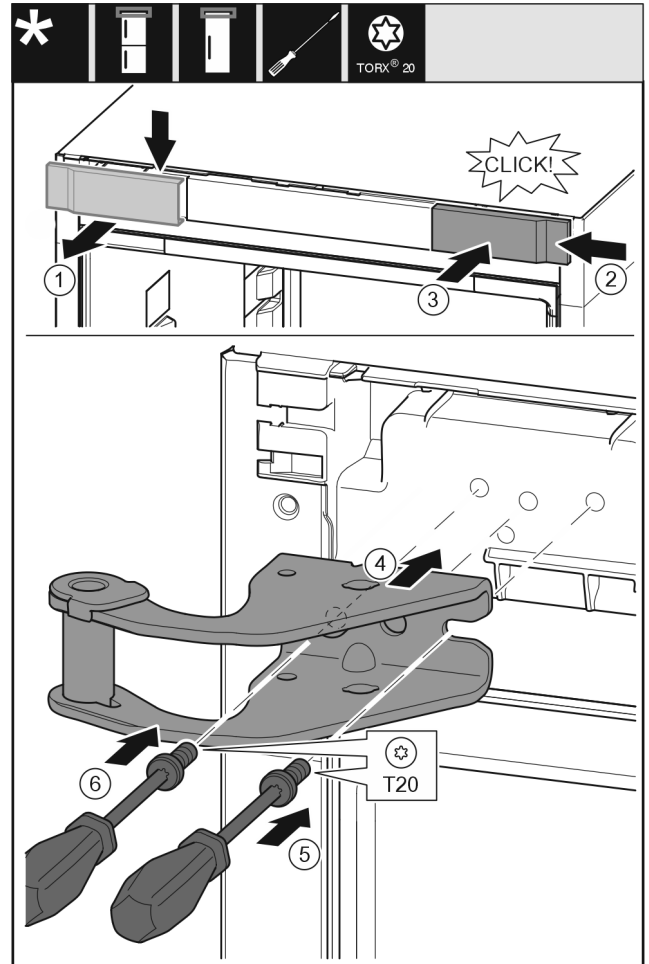

Fig. 11
- ▶ Take off the cover from above to the front. Fig. 11 (1)
- ▶ Rotate the cover 180° and clip onto the other side from the right. Fig. 11 (2)
- ▶ Latch the cover into place. Fig. 11 (3)
- ▶ Position the upper bearing bracket. Fig. 11 (4)
- ▶ Insert the screw with a T20 screwdriver and tighten it. Fig. 11 (5)
- ▶ Insert the screw with a T20 screwdriver and tighten it. Fig. 11 (6)